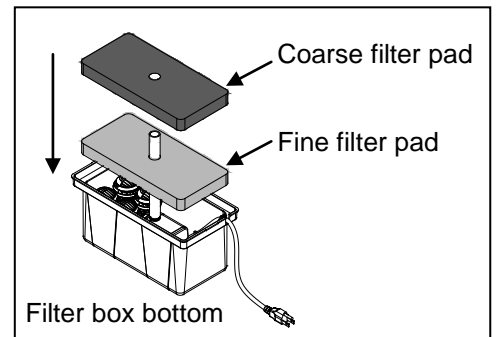

Fig. 4
4. Place one of the fine filter pads over the bio media balls and pump. Then place one of the coarse filter pads over the fine filter pad. Fig. 4